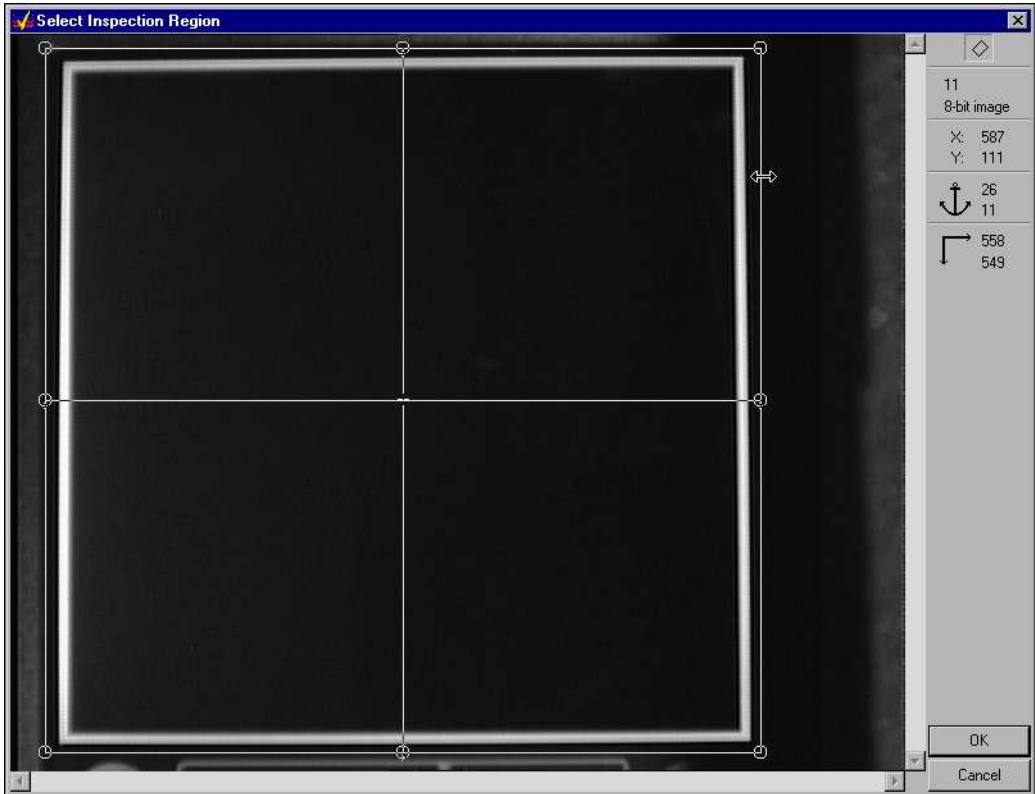

Figure 2-8. Alignment Inspection Region
3. Click **Set Inspection Region**. A window appears containing a default region in which the function locates the display and its housing. You can modify the position of the inspection region by manipulating its control points or vertices with your cursor, as shown in Figure 2-8.